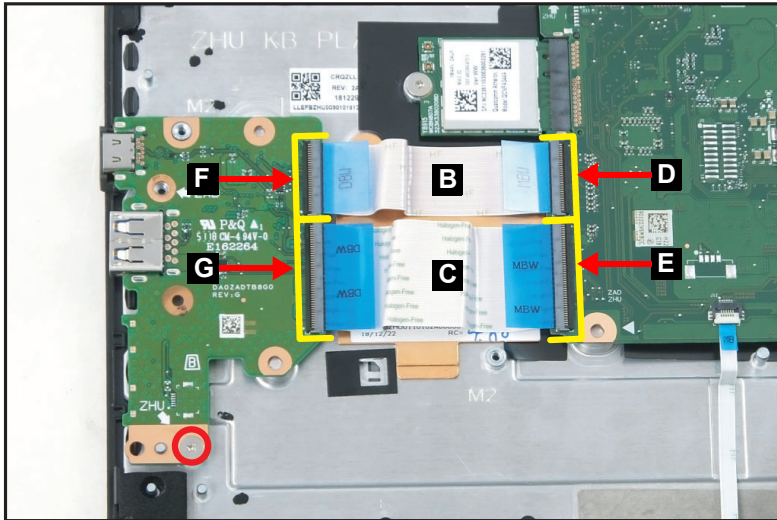

Figure 1-24. USB Board Removal
2. Release the latches and disconnect the 30-pin USB board FFC (B) from the mainboard connector (D) and the USB board connector (F). Remove the 30-pin USB board FFC from the top assembly (Figure 1-24).
3. Release the latches and disconnect the 40-pin USB board FFC (C) from the mainboard connector (E) and the USB board connector (G). Remove the 40-pin USB board FFC from the top assembly (Figure 1-24).
4. Remove one (1) screw securing the USB board in place (Figure 1-24).